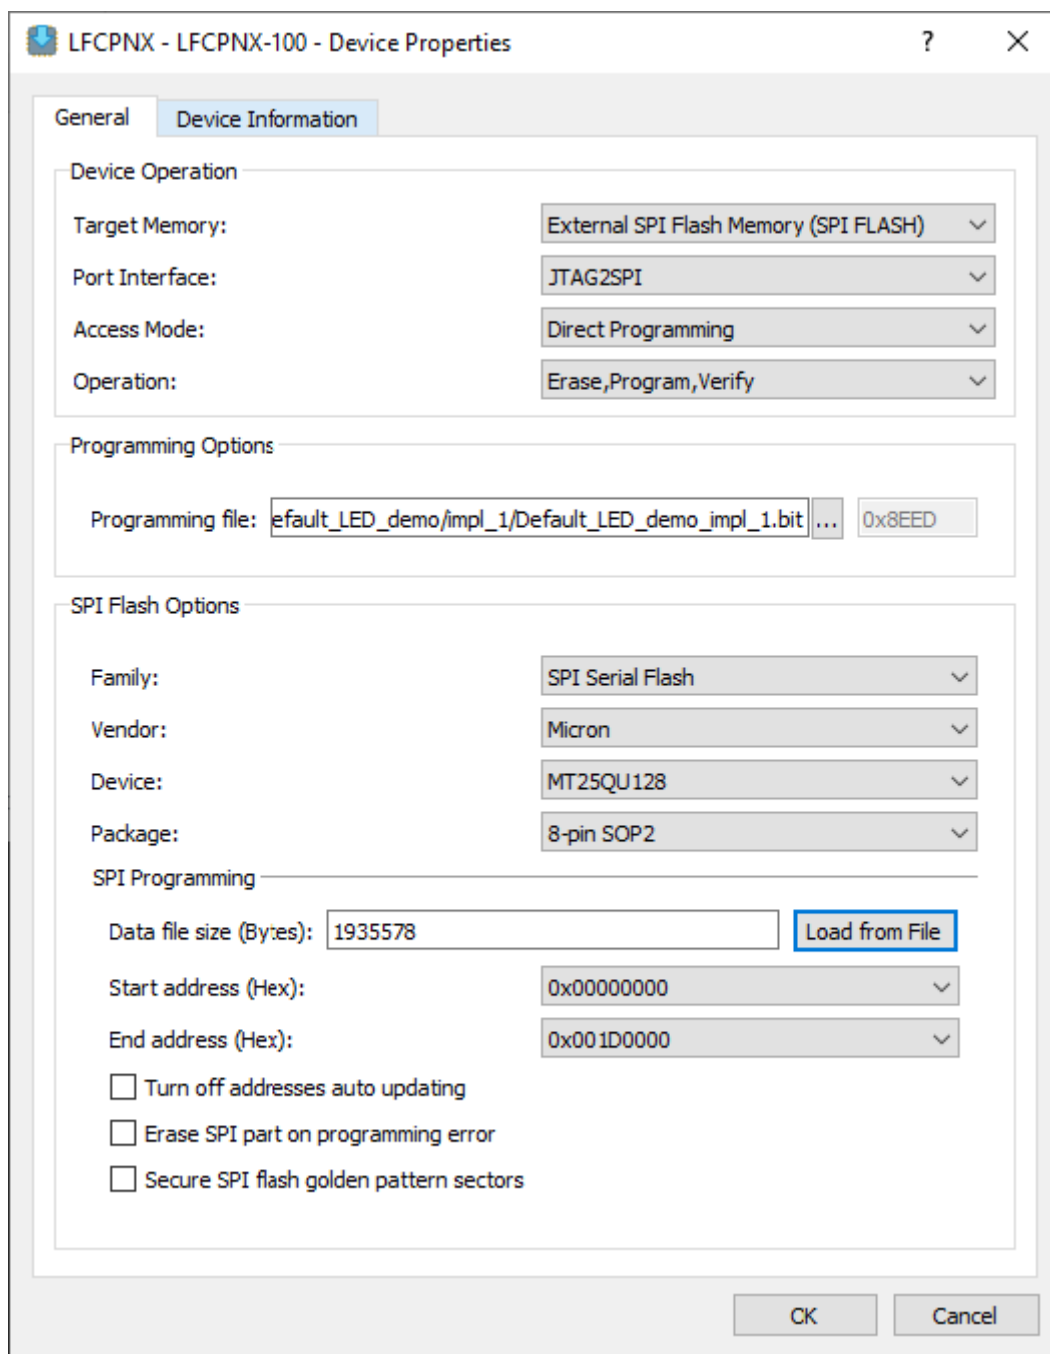

Figure 4.7. Radiant Programmer – SPI Flash Operation Device Properties
- The **Device Properties** dialog box opens (Figure 4.7). Select the following options: